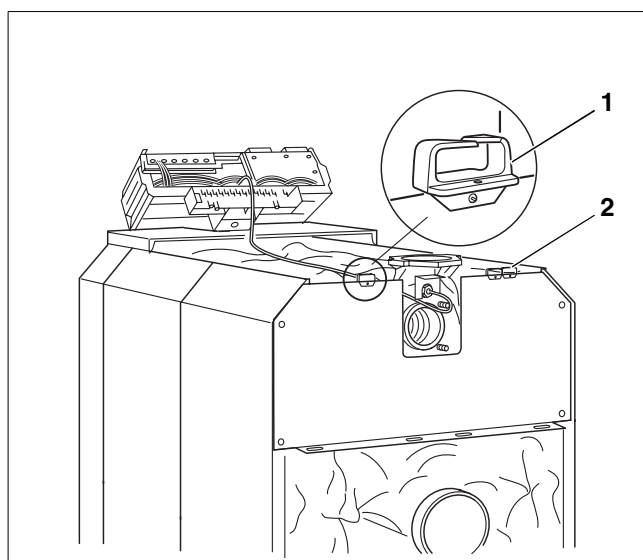

Fig. 61 Electrical connections
- Screw a cable lead-through (Fig. 61, **ref. 1 and 2**) to the left or right of the upper rear panel.